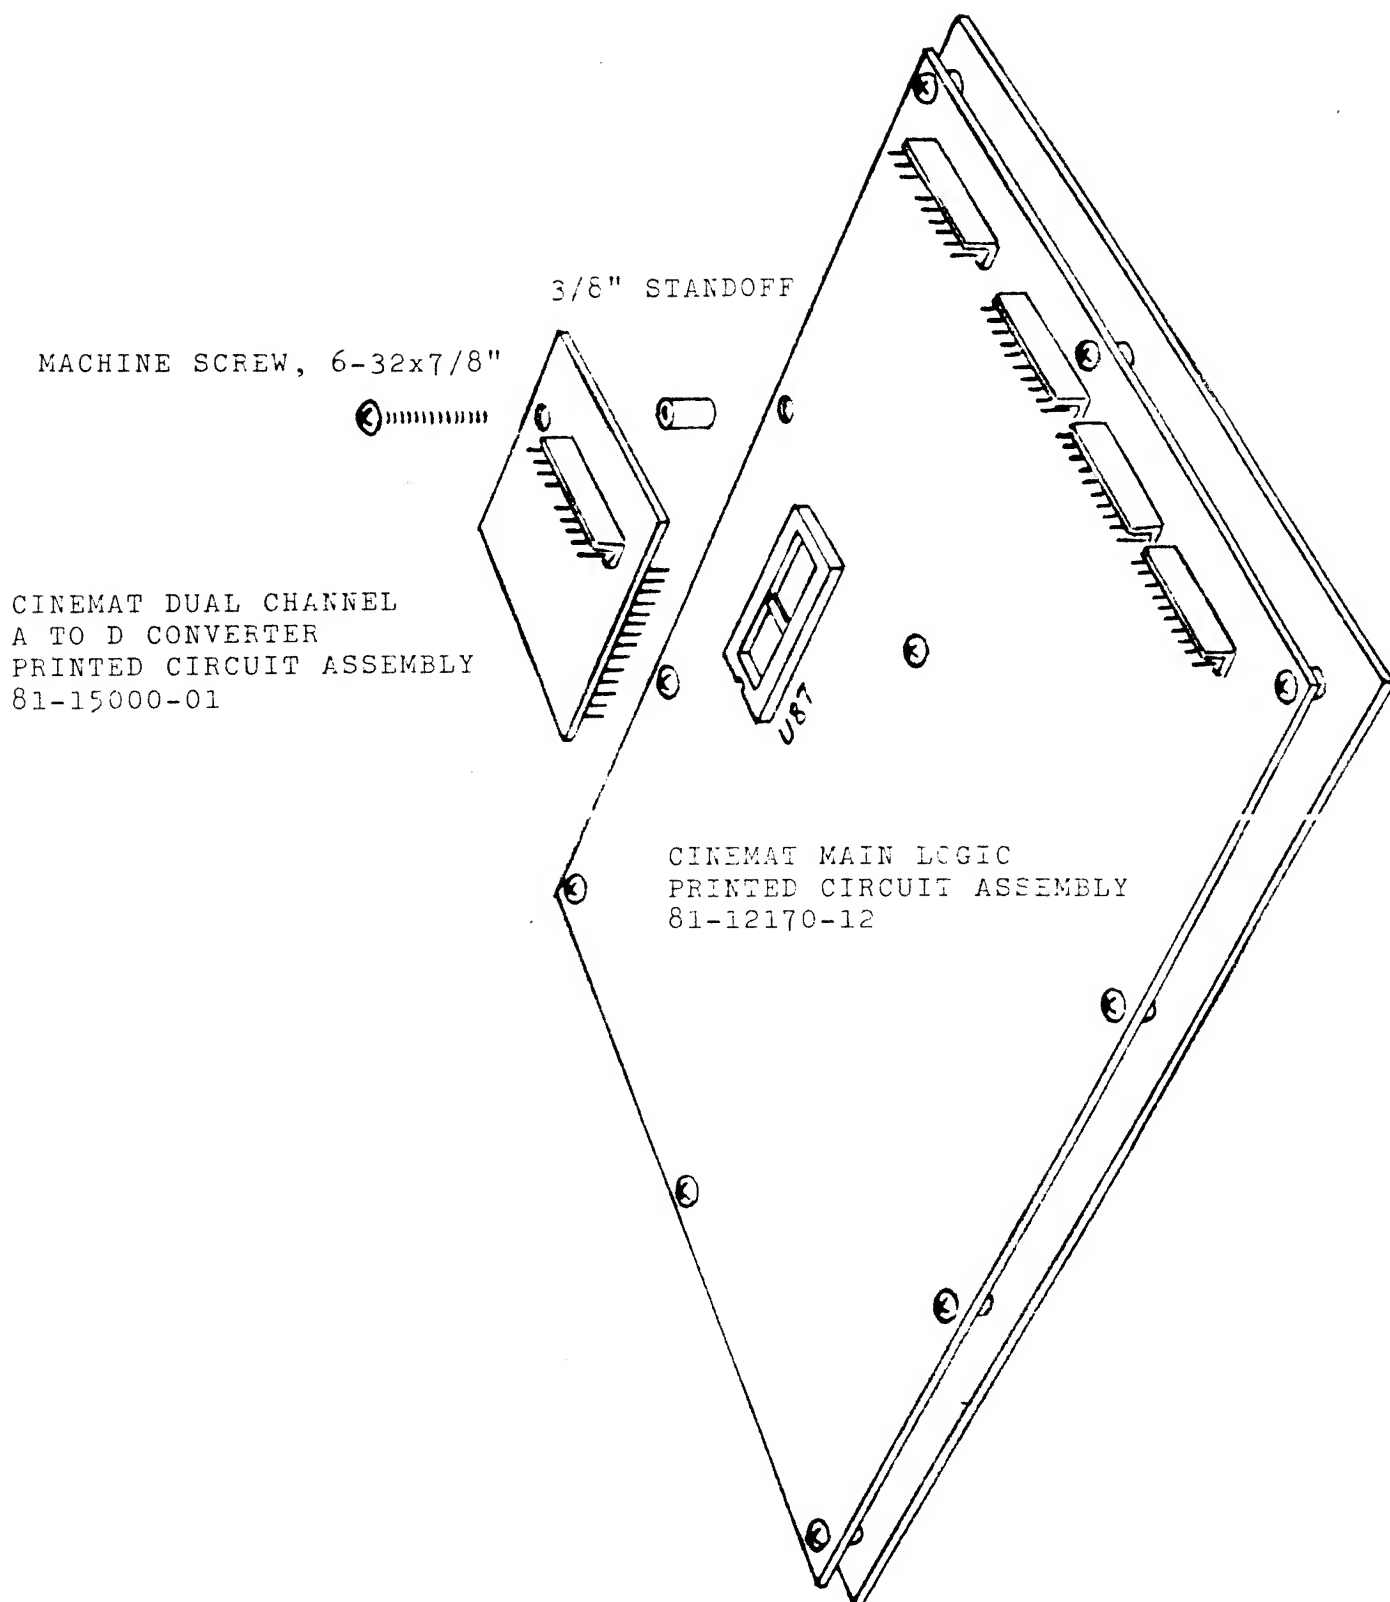

FIGURE 4 MOUNTING A TO D CONVERTER BOARD
- 5) Install the A to D Converter board into the main logic assembly by plugging it into location U87 as shown in figure 4.